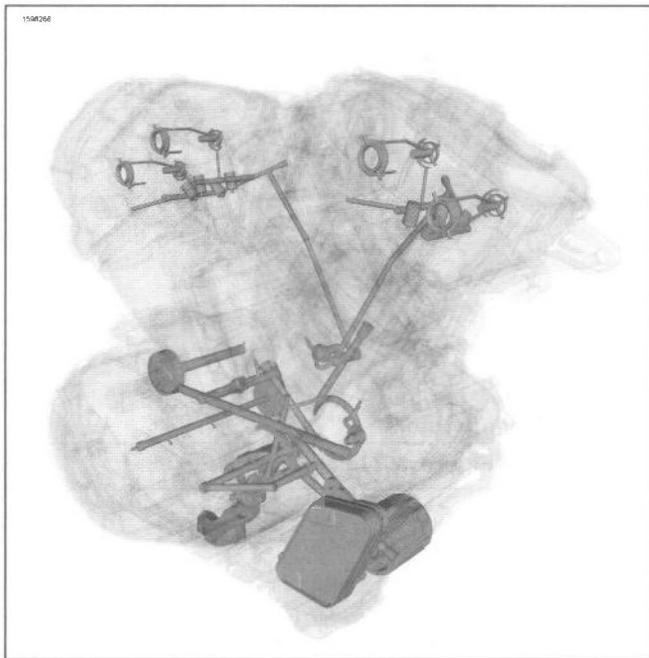

Figure 4-1. Oil Flow
1. See Figure 4-1. The feed pump pulls oil from the internal reservoir through a screen filtered pickup. This protects the feed pump from large debris contaminants and prevents crankcase sealant extrusions from plugging small internal passages.